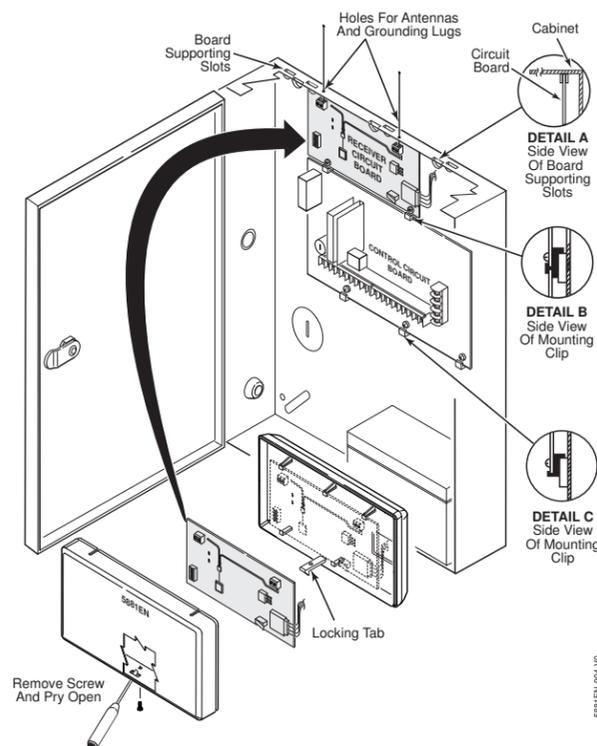

Figure 2.
2. **If the receiver is to be mounted within the control's cabinet** (refer to Figure 2):
- c. Hang two mounting clips (provided with the receiver) on the raised cabinet tabs, as shown in Detail B of Figure 2.
- f. Hang two mounting clips (supplied with control board), on the raised cabinet tabs see Detail C in Figure 2.